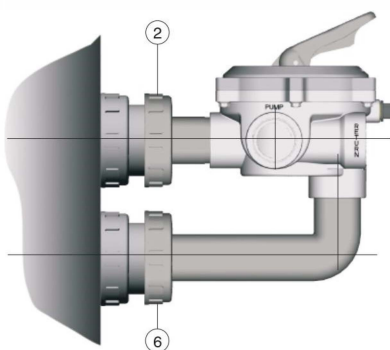

Fig. 4
1. Place the flat rubber seal (3) into the valve port marked TOP. Screw the union (1) into the valve port having passed it through the coupling (2). Tighten the union (1) firmly to ensure a good watertight joint.
2. Fit the selector valve to the upper filter outlet, ensuring that the o-ring (4) is in place between the filter and the valve assembly. Gently tighten the coupling (2) ensuring that the lower port of the valve remains perpendicular to the floor.
3. Fit the elbow (5) with the coupling (6) and the seal (4). Do not use adhesive at this stage.
4. Gently tighten the couplings (6) and (2) as shown in figure 4. Note the area of the elbow used for adhesive jointing. Unscrew coupling (6) and remove the elbow (5), clean the jointing area with solvent and apply the correct adhesive (solvent cement based on THF). Re-assemble as shown in figure 4 and leave to dry for at least 2 hours before using.
4. Viser légèrement l'écrou (6) et serrer fermement l'écrou (2) (figure 4) afin d'obtenir un parfait alignement de la vanne. Démontez l'écrou (6) et le coude (5) et nettoyez les endroits du collage avec du dissolvant. Appliquez la colle à base de THF sur le coude et sur la vanne. Positionner à nouveau selon figure 4 en serrant l'écrou (6) et laisser sécher 2 heures avant de mettre l'installation en fonctionnement.
4. Avvitare dolcemente la flangia (6) e fissare fortemente la flangia (2) (vedi fig. 4) in modo da ottenere il perfetto allineamento della valvola. Smontare la flangia (6) e il gomito (5) e pulire le superfici da incollare, con solvente. Utilizzare Tetraidrofurano (THF) o collante a base di THF. Applicare il collante sia sul gomito sia nel corrispondente foro della valvola. Posizionare, di nuovo (vedi fig. 4), serrando la flangia (6), la valvola, lasciando che indurisca per almeno due ore prima di far funzionare l'impianto.
4. Mutter (6) leicht andrehen und Mutter (2) fest anziehen gem. Abb. 4, so dass das Ventil perfekt in Linie ist. Mutter (6) und Knie (5) wieder abmontieren und die Klebezonen mit einem Lösemittel reinigen. Einen THF Klebel auf das Knie und das Ventil auftragen. Beide Teile wieder gem. Abb. 4 befestigen und Mutter (6) fest andrehen. Vor Inbetriebnahme 2 Stunden trocknen lassen.